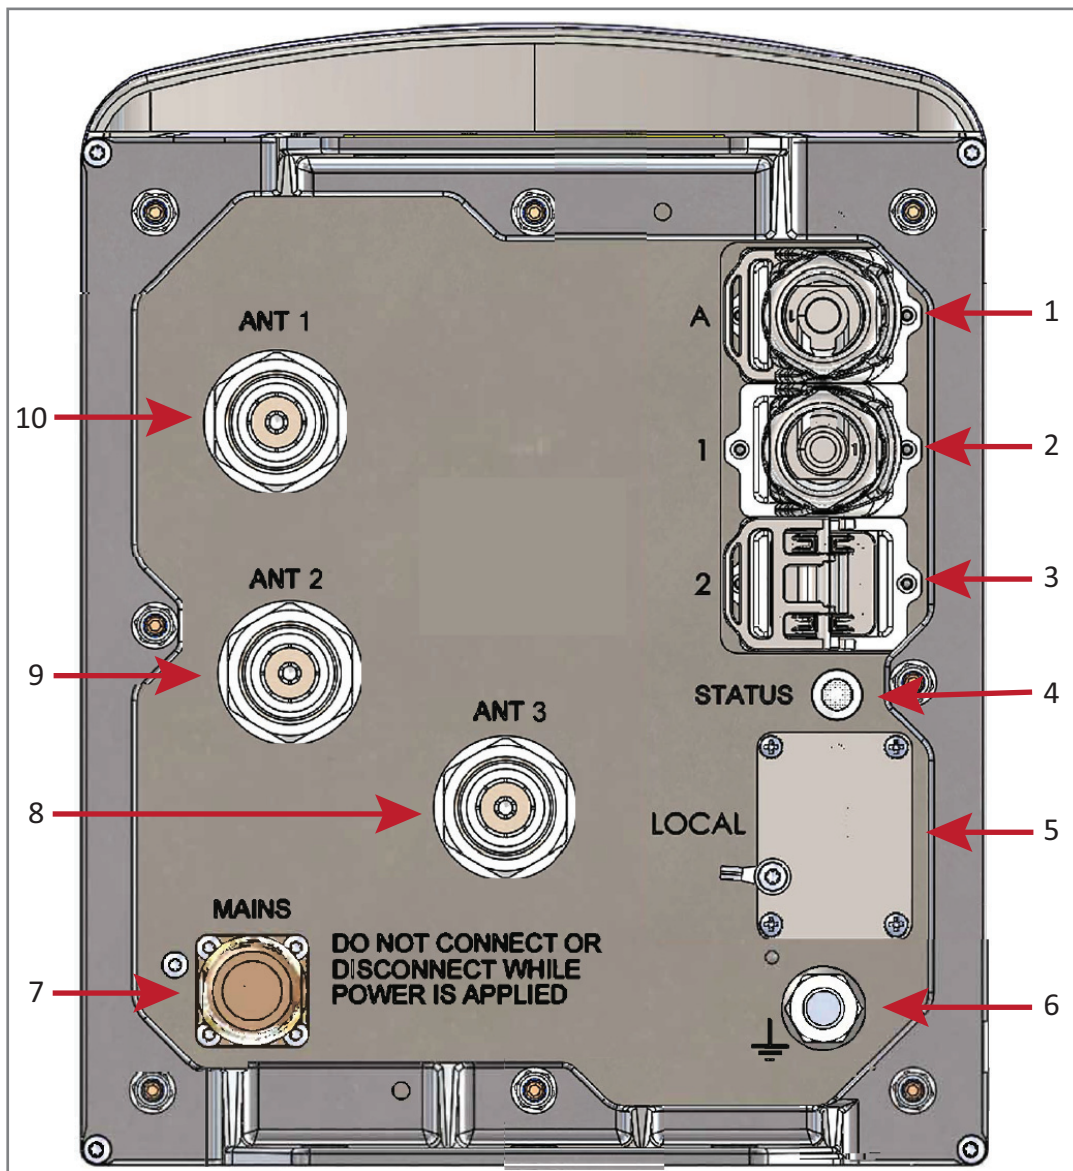

Figure 6. Location of Connectors and Status LED on AC Version with Three Antenna Connectors
- Figure 6 shows the connectors on an AC version with three antenna connectors.
- Table 4 on page 13 maps the callouts in Figure 6 and describes the connectors and STATUS LED.
The “REF #” column in Table 4 refers to the callouts in Figure 6 on page 12.